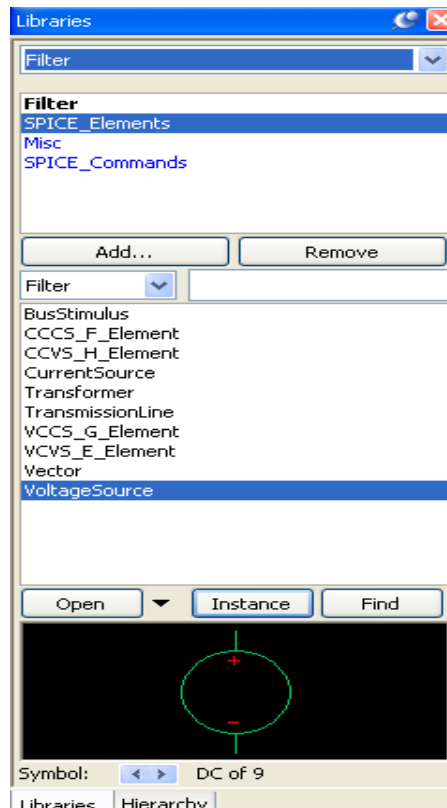

Figure 122: **Symbol Browser** dialog
- ☑ Select **Spice** at the bottom of the library list (Figure 122).